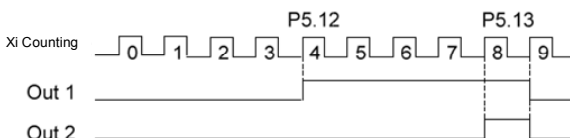

Figure 6-18 Schematic diagram for the preset and reaching counting value reference
2. The terminal Yi is set to “10: Preset counting value action”, and the action sequence is shown as Out1 in Figure 6-18. Effective level will be output when the counting value is between the values of P5.12 and P5.13.
The terminal Yi is set to “11: Reaching counting value action”, and the action sequence is shown as Out2 in Figure 6-18. Effective level will be output and kept till the counting value changes when the counting